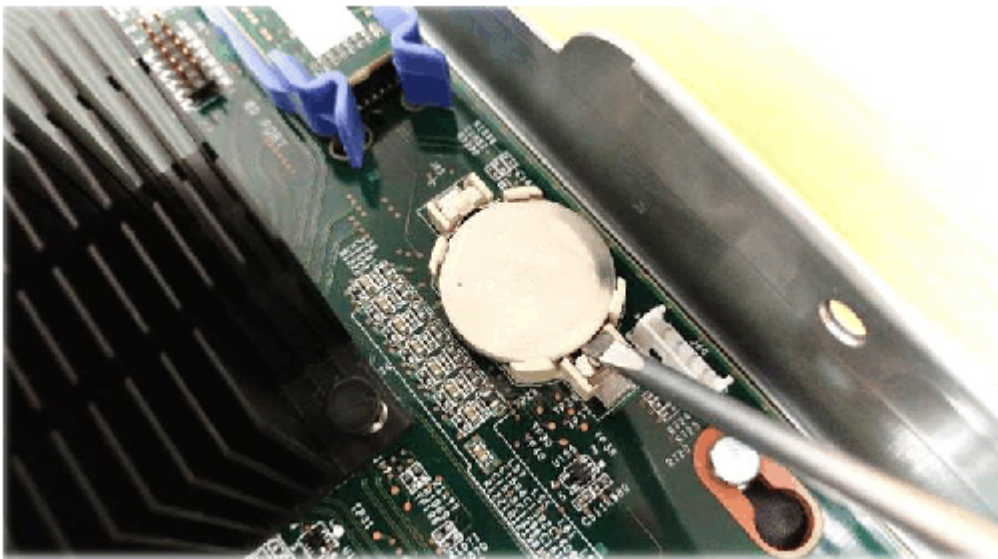

Figure 80. Replacing a CMOS battery
4. Use a flat head screwdriver to gently pop the CMOS battery out of the battery holder, as shown in Figure 80 on page 129. However, do not remove or loosen any screws in the node canister.